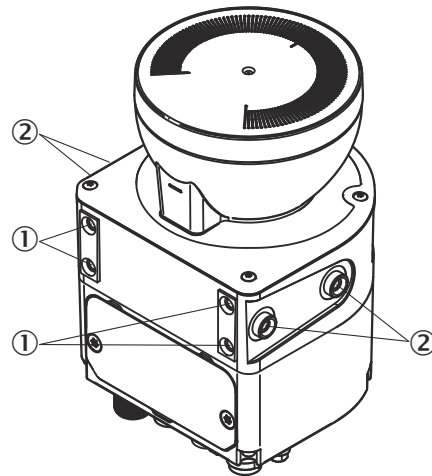

Figure 51: Mounting the safety laser scanner directly
- ① Rear M5 threaded hole
- ② Side M5 threaded hole
- ▶ Use either the rear or the side M5 threaded holes for direct mounting, see figure 51, page 81.